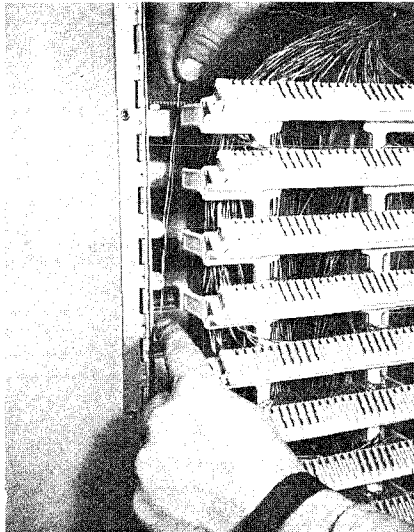

Fig. 6 — Routing Jumper Wire
- 4.02** Route one end of the jumper wire ("Z" Cross-Connecting Wire) down and behind the wiring channels in the "OUT" cable field. (See Fig. 6.)